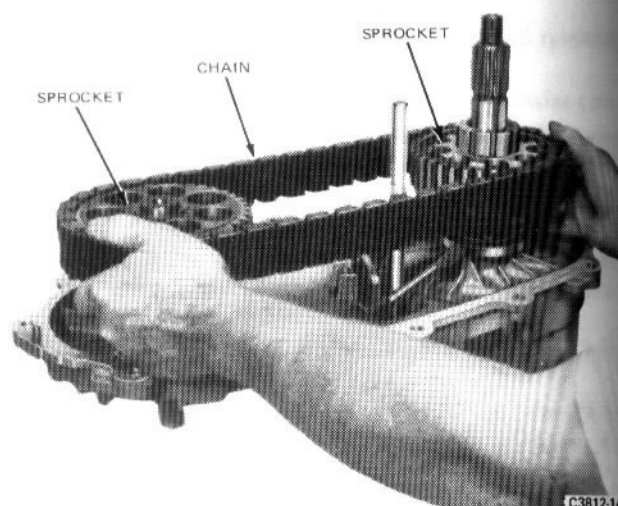

FIG. 9 Removing Sprockets and Chain
11. Grip the chain and both sprockets, (Fig. 9) and lift straight up to remove the drive sprocket, driven sprocket and chain from the output shafts.